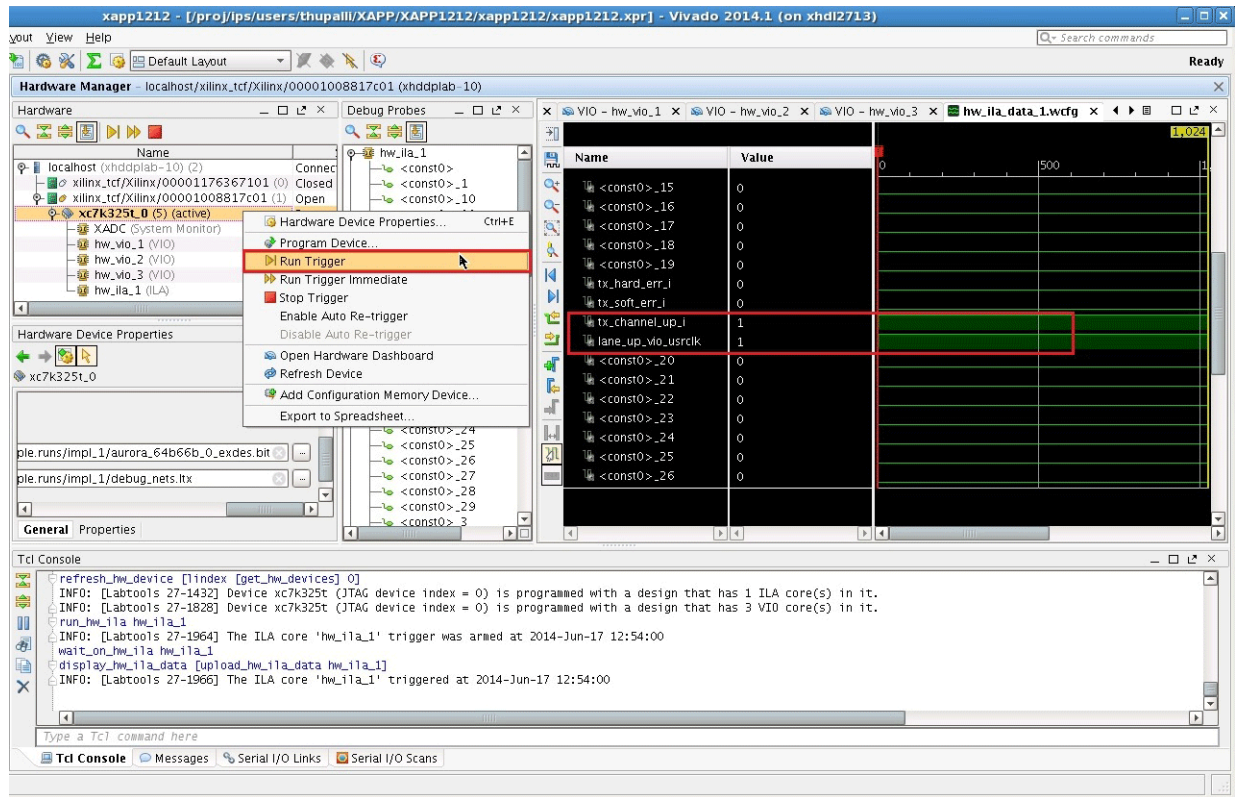

Figure 24: Run Trigger
1. Right-click the device in the Hardware list and select **Run Trigger** (Figure 24).